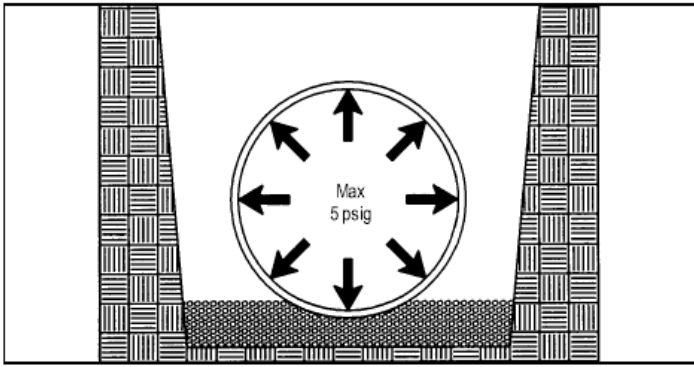

FIGURE 2-2
**WARNING: The maximum test pressure is 5 psig. Position the pressure gauge so that the pressure readings can be clearly read at all times. Failure to follow this warning could result in death or serious injury (See Figure 2-2)**